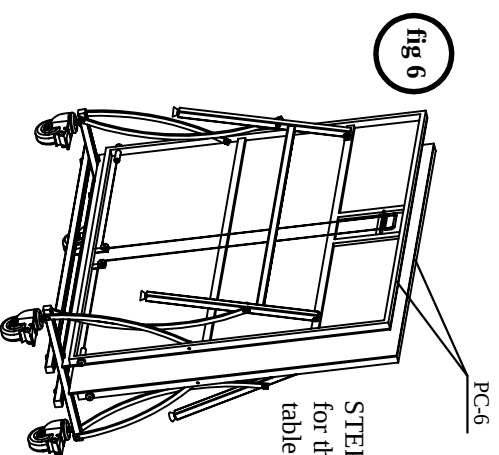

fig 6
STEP 6: Repeat step 5 for the other side of table top(PC-6) (fig 6).